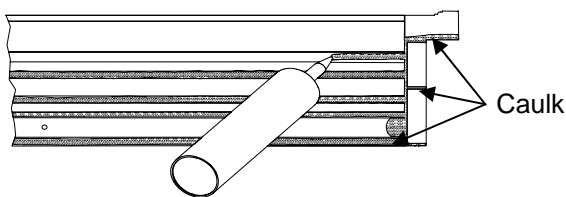

Figure 1a (In-swing)
3. **IMPORTANT:** Before setting the door unit to the rough opening, apply generous beads of caulk to the underside of the door sill at locations shown in figures 1a or 1b including the plastic sill-key and brickmold. Make sure that at least 4 lines of bead seal the full width of the sill.